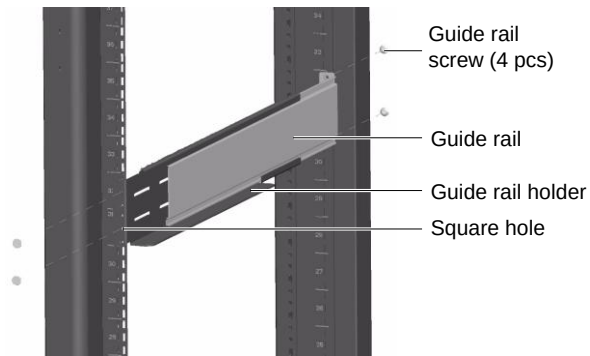

Figure 2-10 Installing guide rail
- 3) Align the installation holes of the guide rail with the square holes of the rack, fix the guide rail onto the rack with the guide rail screws, each left guide rail and right guide rail need four guide rail screws, as shown in Figure 2-10.